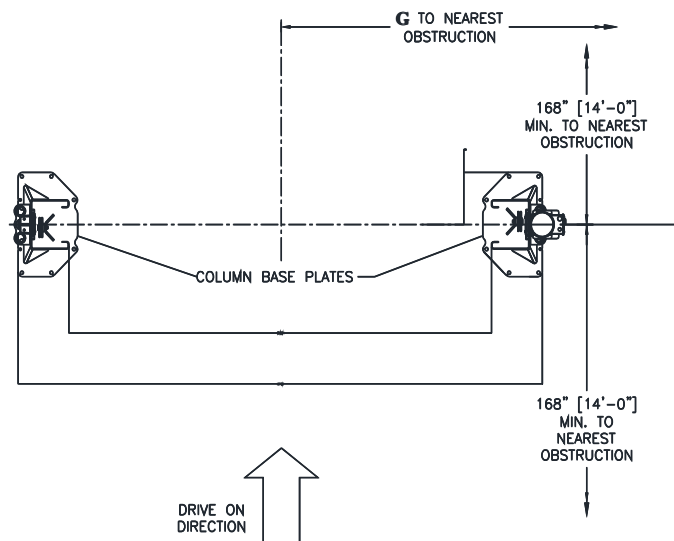

Fig. 1b - Service Bay Layout
- Lay out the service bay according to the architect's plans or owner's instructions (**see Fig 1b–Service Bay Layout**).